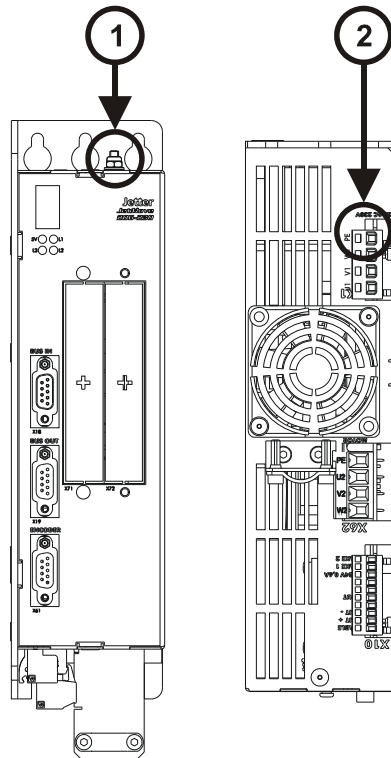

Fig.: 1: Double earthing
- The protective earth conductor must be connected to the PE screw (1) located at the top side of the rack as well as to the PE terminal X1 (2); for this, please refer to Fig. 1.
- Connect the protective earth (PE) to terminal X1.Please refer to fig. 1 on page 16